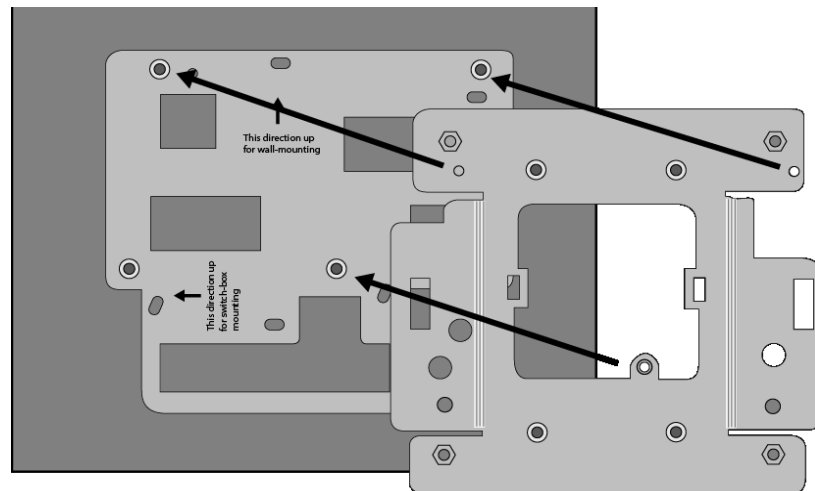

Figure 9. Placing the Base Plate on the Fortinet Bracket
1. Place the base plate over the Fortinet bracket. The three holes indicated in Figure 9 have to align with the three standoffs on the bracket.